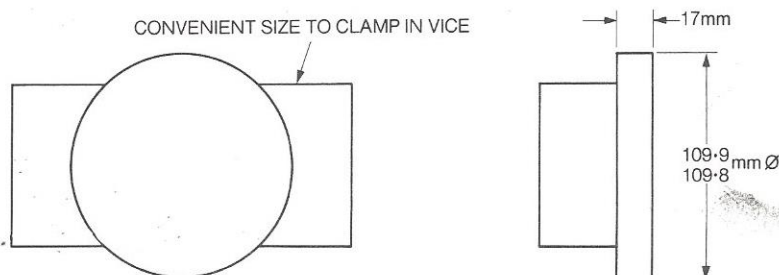

Figure 3 Mounting block for Main Casting
- 4.4.8 If it is found to be convenient a mounting block can be made up which will allow the Main Casting to be mounted above a bench vice and improve accessibility for servicing. Figure 3 gives the important dimensions of such a mounting block.